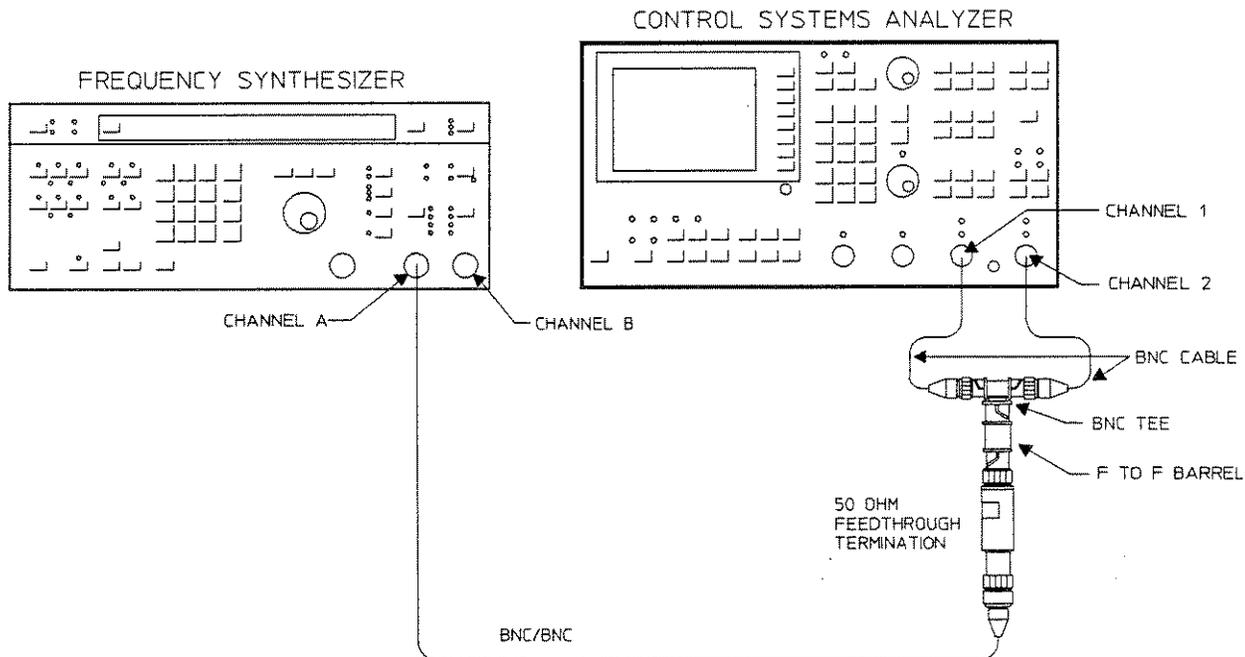

Figure 4-8. Anti-Alias Filter Response Test
1. Connect the test instruments as shown in Figure 4-8.